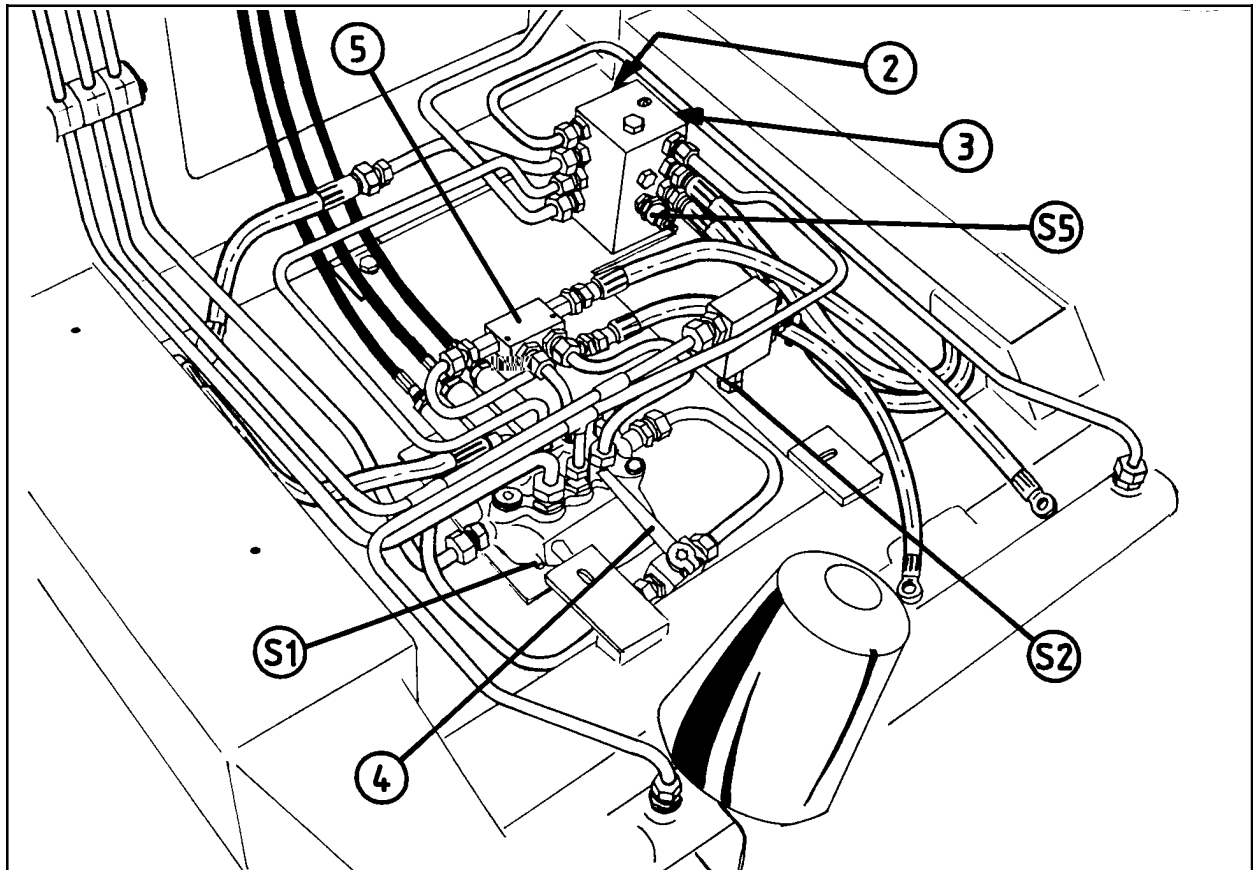

Fig. 14-1
Most tractors have an oil pump which gives a certain quantity per revolution. Then the crane handle, (pos. 4, fig.14-1), has to be set in open position. (See chapter 4.7). If no other function is activated, the oil flows from the tractor, through the main valve block and back to the tank. When one of the levers is operated, the open flow circuit will be closed and simultaneously the oil goes to the current function.
For tractors with variable oil pump, like John Deere, the crane handle must be closed. (Pos.4, fig.14-1) Then the oil can only come into the main valve block by operating one of the functions.
14.2 Pos. 5, fig. 14-1 is a piloted non-return valve that shall prevent the oil-pressure to "leak out" of the cylinder that holds the cutter closed.
14.3 The hydraulic system is equipped with a safety valve, (S1), which is preset to 185 bar. It opens for the oil circuit to tank if max. pressure is exceeded. This valve is attached to the main valve block. See fig. 14-1.
14.5 The valve block on fig.14-1 has three valves: